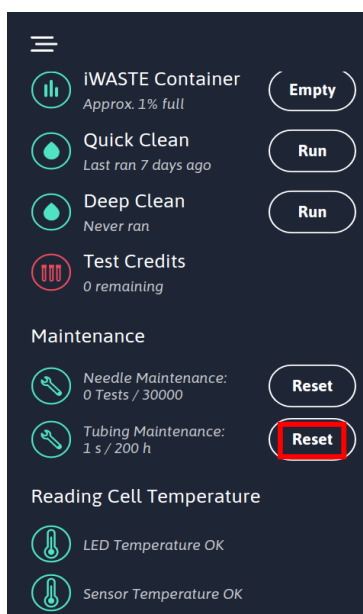

Figure 16
22. On the Maintenance page, press the “Reset” Button under Tubing Maintenance as highlighted. This is going to reset the Tubing cycle to 0 hours. See Figure 16.
23. Press “Burger”  button in Figure 16 followed by  button to return to the Main screen.